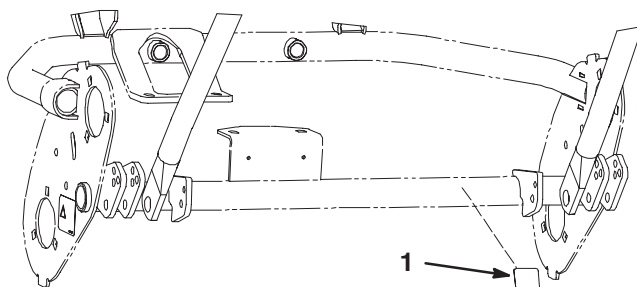

Figure 7
3. For ANSI B71.4–2004 compliance, affix the ANSI safety decal to the right side of the rear frame, as shown in figure 7.